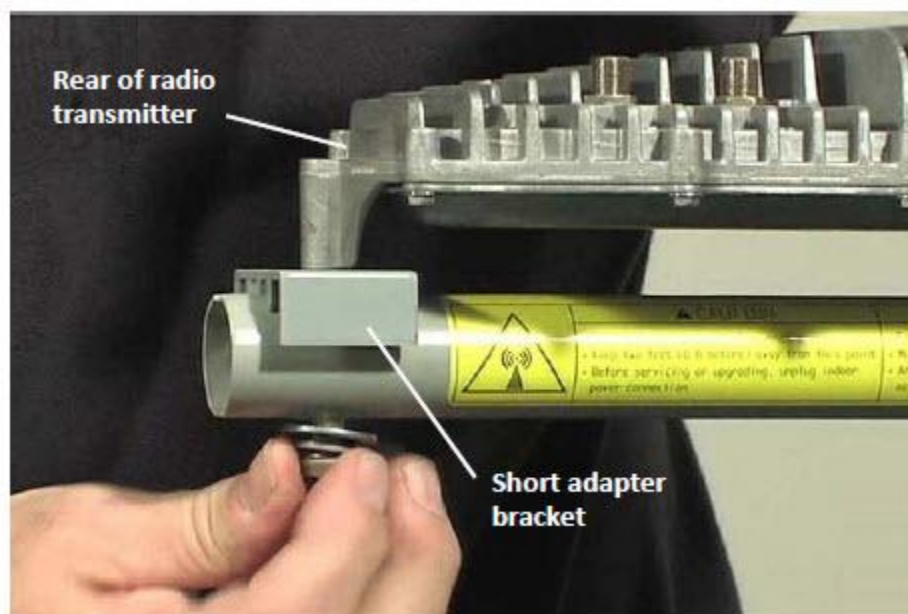

Figure 15: Securing the rear of the radio assembly
7. Place the short adapter bracket in position near the end of the feed support arm and lower the radio onto it as shown in Figure 15.